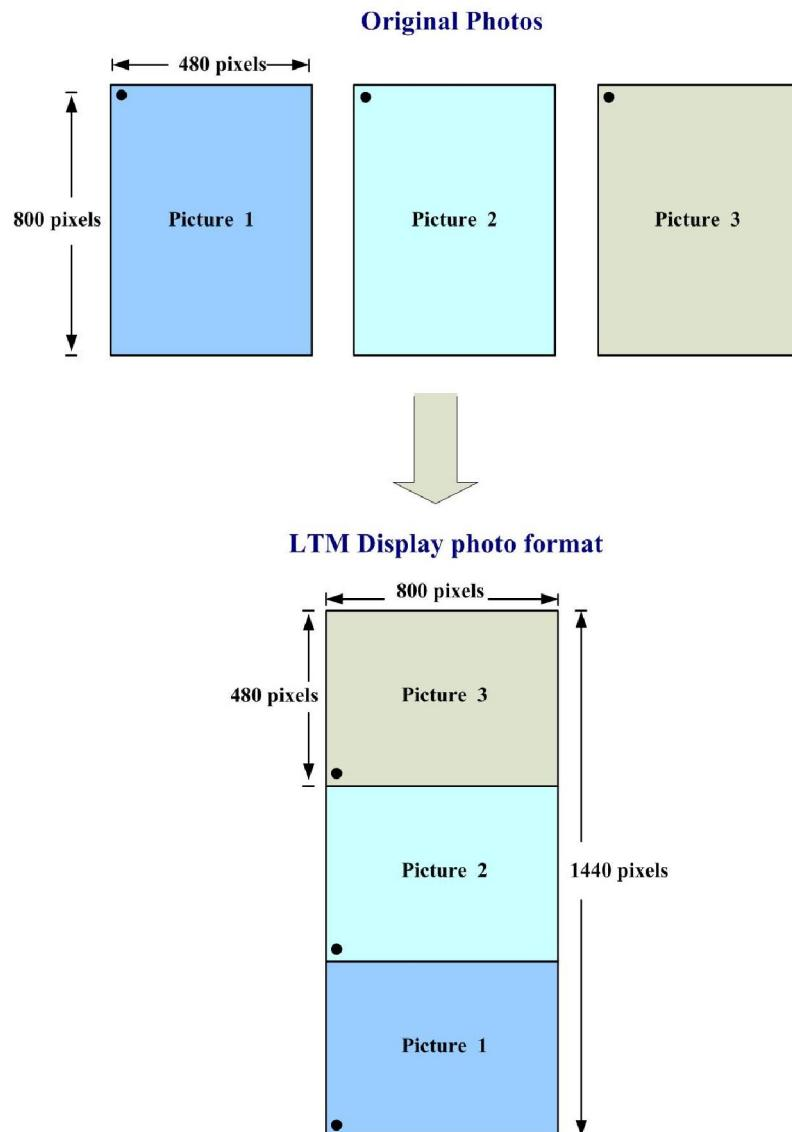

Figure 4.11 The photo format of the DE2_LTM_Ephoto/ DE1_LTM_Ephoto demonstration
2. Use the image processing software (such as Photoshop or Photoimpact) to rotate the images counterclockwise and then merge these photos into a new photo image. The new photo's image resolution should be 1440(high) x 800 (width), as shown in Figure 4.11